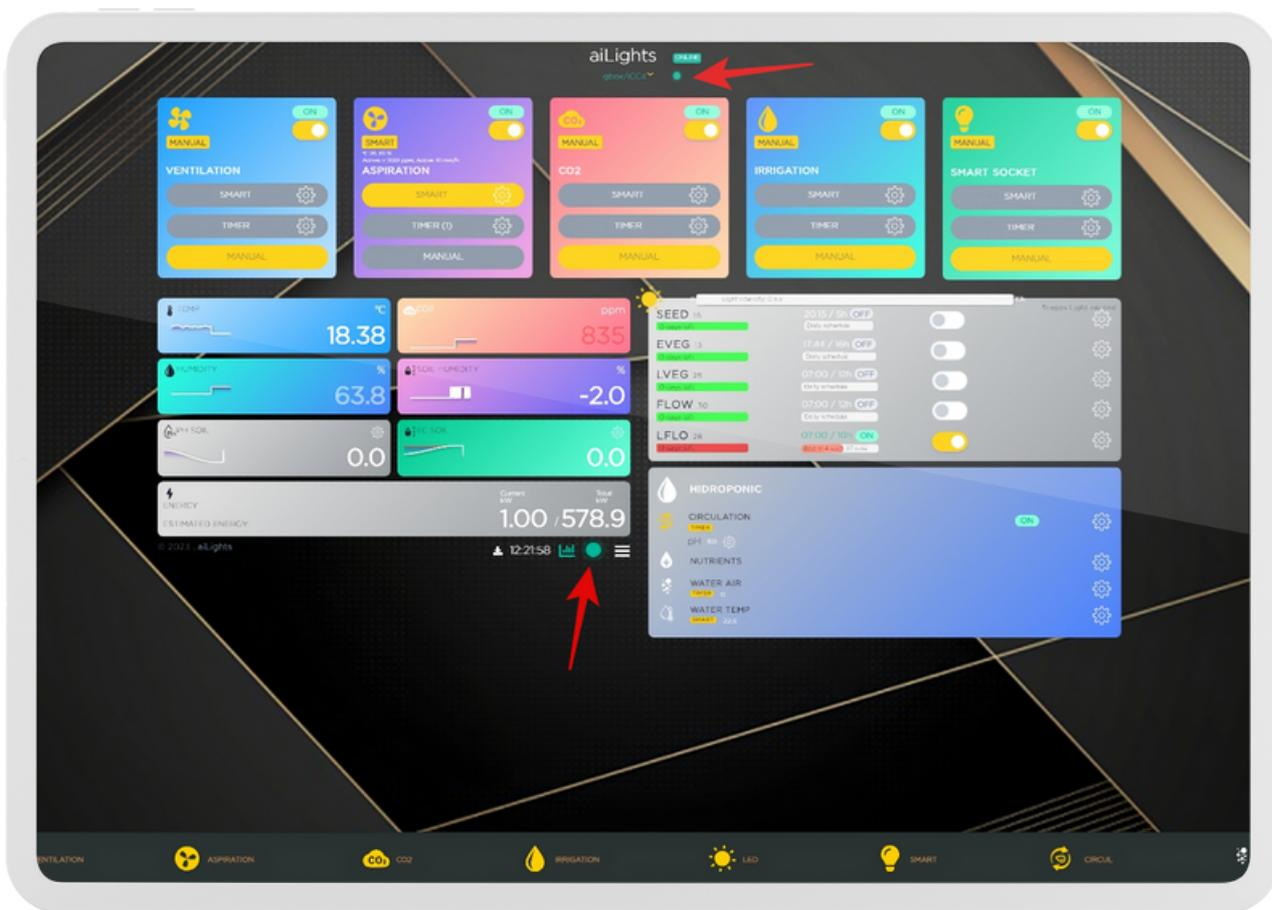

Figure 1.
- Below the "AILights" caption on the displayed screen, you will see a drop-down menu and, next to it, a circle (Figure 1). If it glows in green, then the controller is enabled. Tap the dot to enter the login form. If your dot glows in gray, tap it and a message will pop up telling you what the problem is.